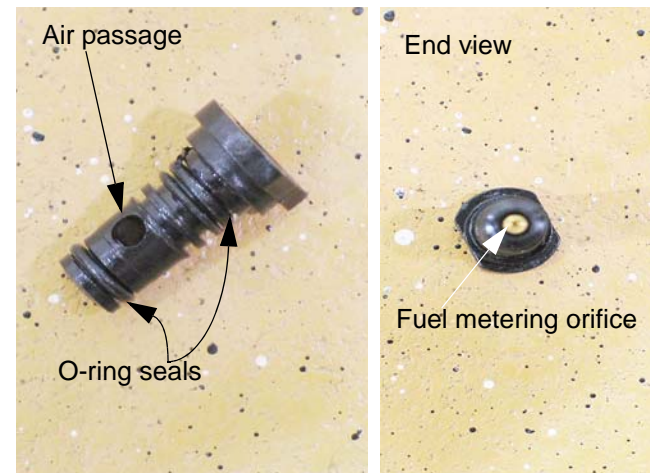

Figure 4.22
9. Examine the metering plug: See Figure 4.22.